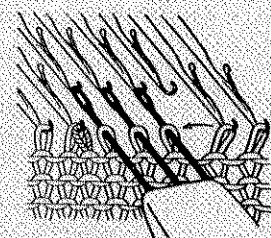

Fig. 84
- b) With the 3 needle transfer tool, transfer all stitches inward onto the empty needle. (See Fig. 84)